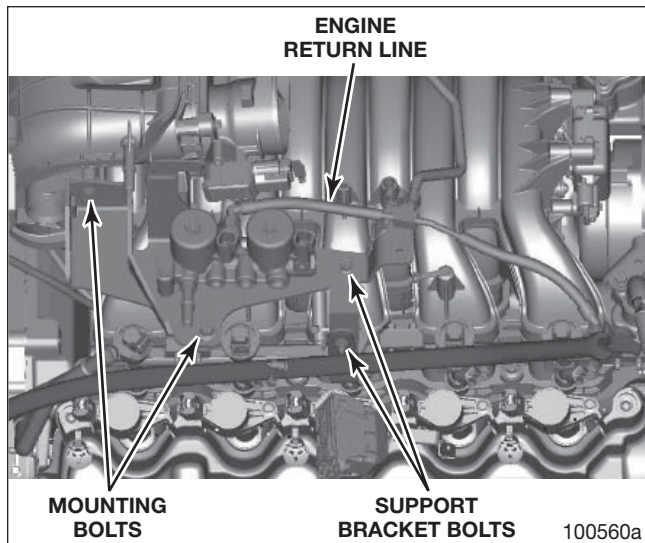

Figure 92 – FRPCM
4. Install the engine return line on the FRPCM. Connect the line to the port on the FRPCM. Secure the engine return line in the FRPCM bracket clip. Figure 92.